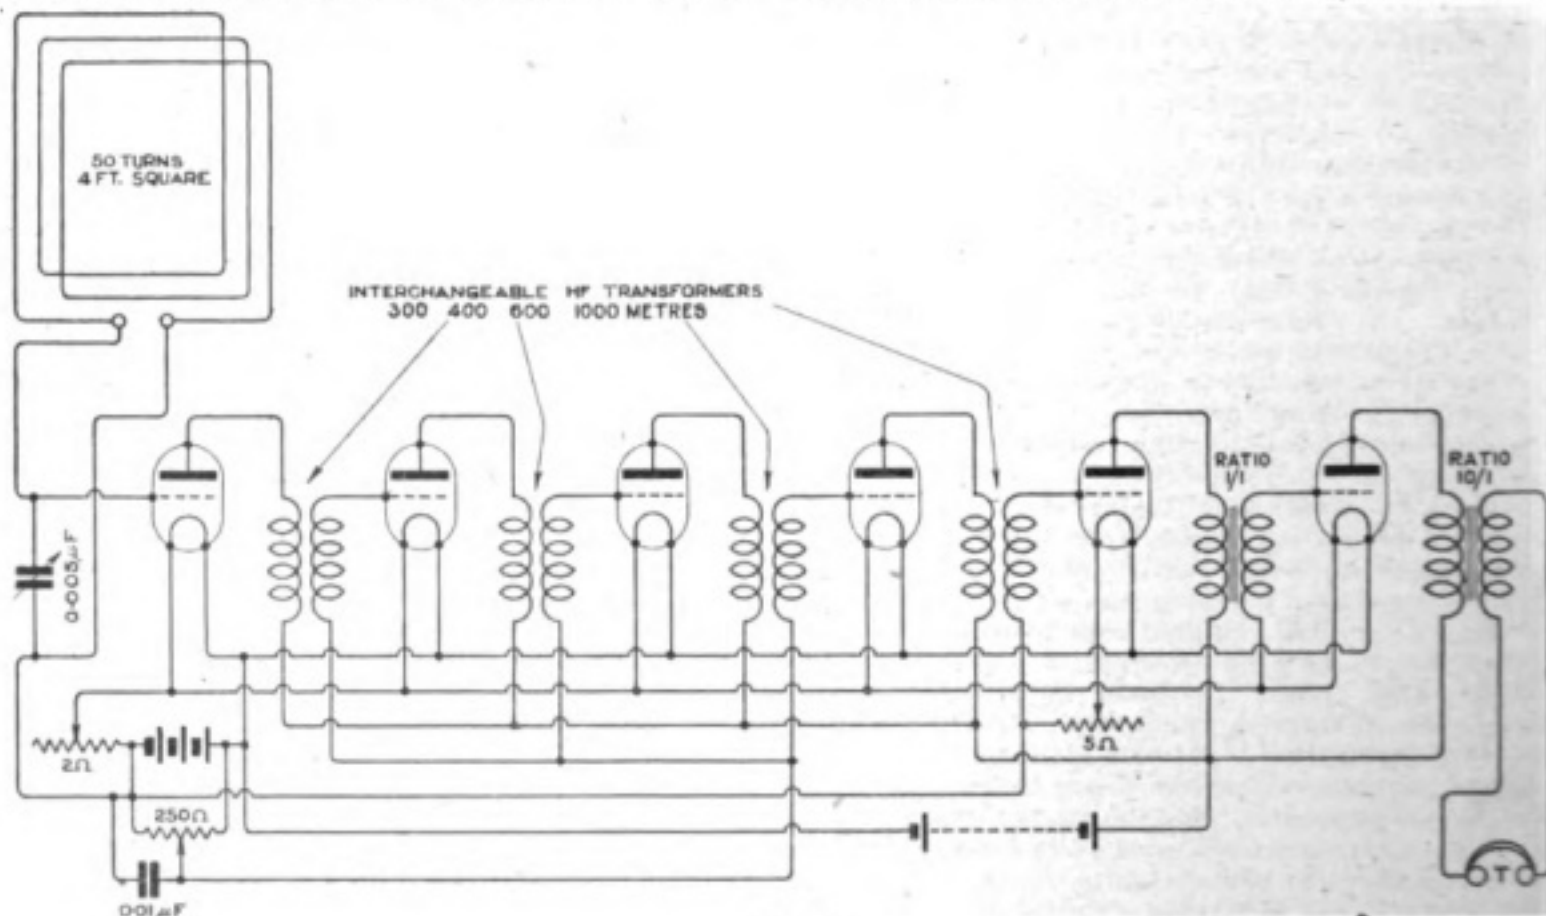

Fig. 1.
**"C.A.J.B."** (Putney) has a single valve set working on an indoor aerial and asks (1) Why set will not work. (2) For suggestions for improvements. (3) Diagram to add another valve. (4) Wavelength with given tuning coil.
(1) It is wrongly connected up. There is no connection from negative L.T. to earth. The condenser A is presumably intended to be in parallel with B, in which case the present lead from condenser to negative L.T. and aerial should be removed and a connection made from this side of condenser to earth. (2) Connect a 0.001 mfd. fixed condenser across telephones. (3) The additional apparatus required and method of connection will be seen by referring to Fig. 1, page 213, May 13th issue. (4) This inductance is only suitable for wavelengths up to about 600 metres.
four valves. A diagram showing how to arrange set and giving as much information as space allows is given in diagram (Fig. 1).
(1) Fig. 10 should show a condenser shunting the telephones and H.T. battery. It is difficult to say what is the cause of the peculiar results you have been getting. (2) The circuit Fig. 1, page 119, of the issue for April 22nd, should be suitable, and a further valve for H.F. amplification might be added if you wish to increase strength. (3) Obviously your valve is "soft"; too much H.T. or too bright a filament will sometimes aggravate this trouble, but it is generally the valve which is responsible owing to it being insufficiently exhausted in the process of manufacture. (4) Yes, transformer coupling is better for short waves and resistance capacity for 1,000 metres and above.